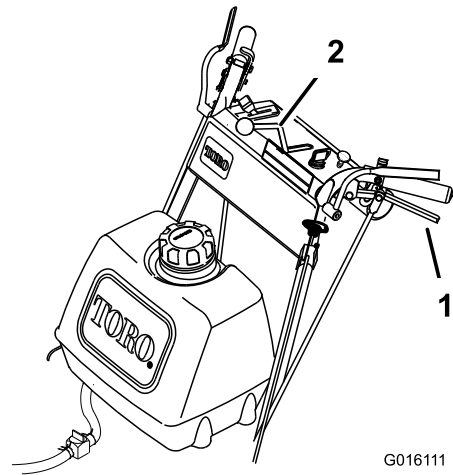

Figure 13
4. Slowly release the drive levers to move forward (Figure 13).
To go straight, release drive levers equally (Figure 13).
To turn, squeeze the drive lever on the side and direction you want to turn (Figure 13).
Slowly squeeze the drive levers to the handle to move rearward (Figure 13).